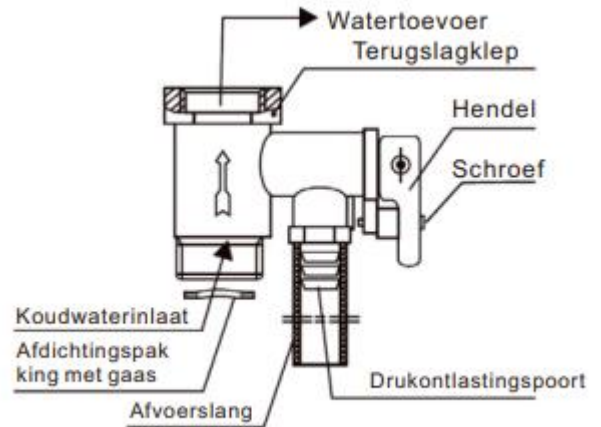

Figure 3
1. The safety valve (original factory identification 0.8MPa) must be installed on the water inlet connection (as shown in Fig. 3), Teflon tape must be wound to ensure sealing. The direction of the arrow should correspond to the flow direction of the water inlet of the electric boiler (see Fig. 3). The net sealing gasket should be installed at the cold water inlet of the safety valve, and the drain hose at the overpressure outlet of the safety valve should be installed to maintain a continuous downward slope. The water heater should be installed in a frost-free environment and then extended to the earth leakage, kept in communication with the atmosphere and properly secured to prevent scalding due to the discharge of hot water or steam. The safety valve can prevent the tank pressure from exceeding the rated pressure by 0.1 MPa. If the pressure in the tank is too high, the safety valve will automatically open and water will be drained from the pressure relief port to release the pressure.
4. During normal use, the safety valve handle (Fig.3) should be opened regularly to remove calcium carbonate deposits. Method: Pull the drain handle up to the horizontal position (if the handle is equipped with screws, remove the screws with a screwdriver before performing this operation) and check whether the safety valve is blocked (whether water is draining). If it is blocked, please contact the maintenance department.